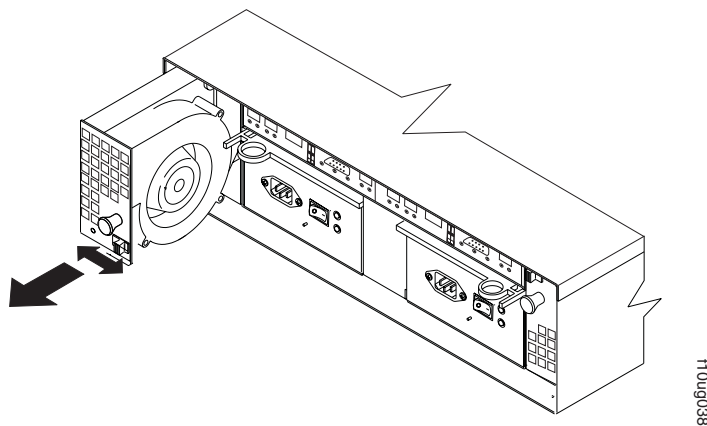

Figure 20. Replacing a fan
2. Ensure that you move the fan latch in the same direction as the arrow before you slide the fan all the way into the bay. If the fan does not go into the bay, rotate it 180° (see Figure 20).